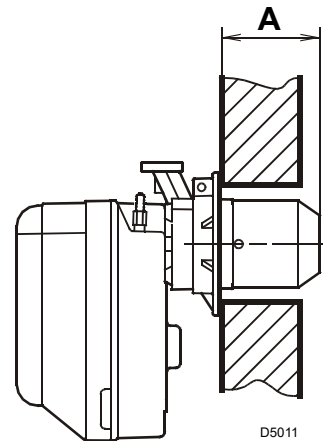

Fig. 11
The burner can be fixed with the variable position (A) as shown in Fig. 11.